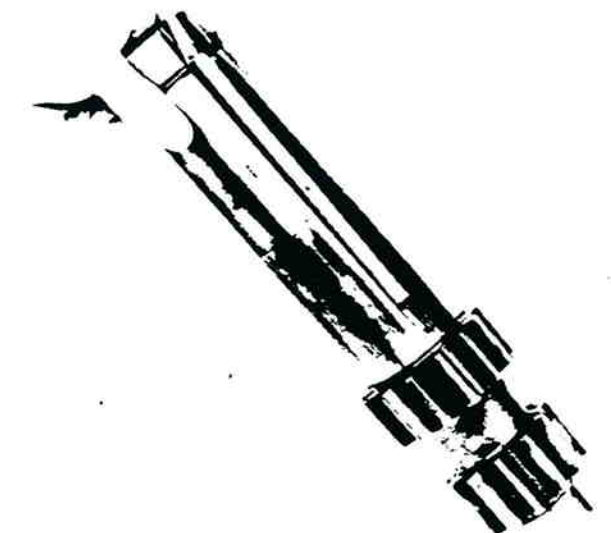

Figure 13-80. Removing Key and Roll Pin..
6. If necessary, remove the key and roll pin from countershaft (figure 13-80).